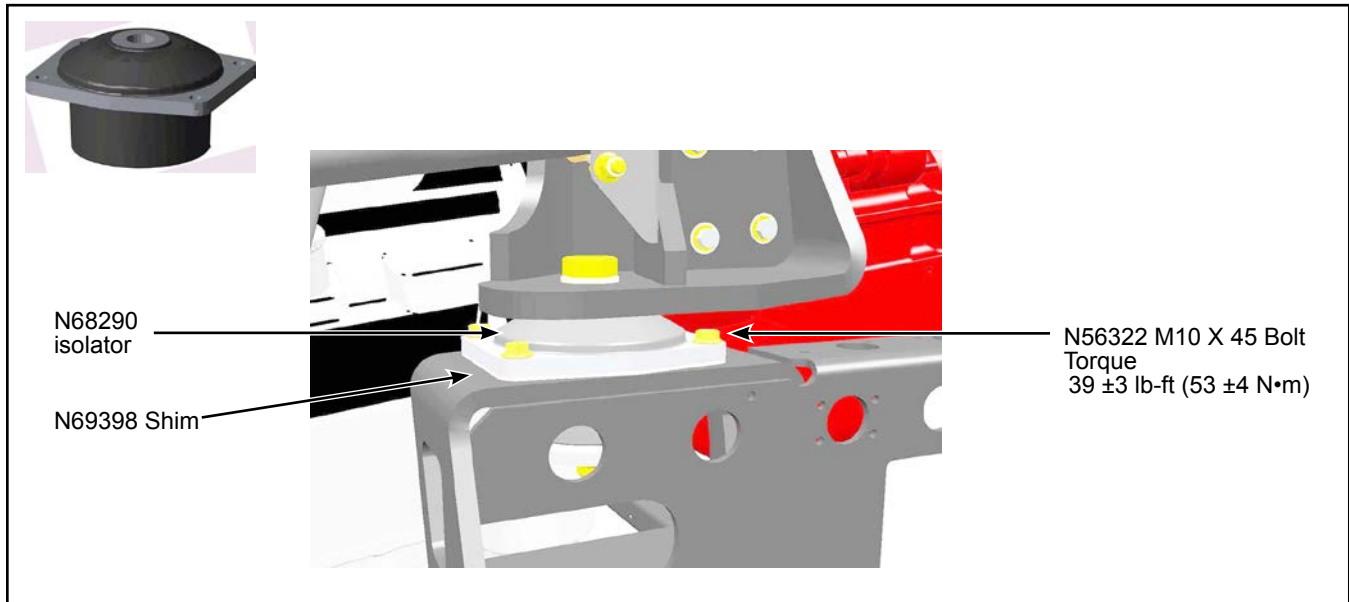

Figure 7 - Isolator Installation
- 1.11. Remove and dispose of the four M10X45 bolts on each rubber mount. See Figure 7.
- 1.14. Affix the new rubber isolator with four N56322 bolts. Tighten to the torque specified in Figure 7.